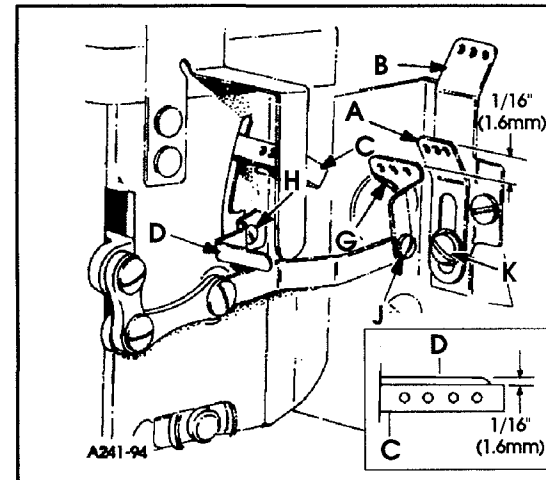

FIG. 19
With the needle bar at the top of its stroke set the adjustable frame needle thread eyelet (A, Fig. 19) in the lower mounting hole of eyelet (B) so the needle thread from eyelet (A) to the needle lever thread eyelet (C) will be in a straight line. If adjustment of eyelet (A) is necessary loosen screw (K) and move eyelet up or down as required. Retighten screw (K).